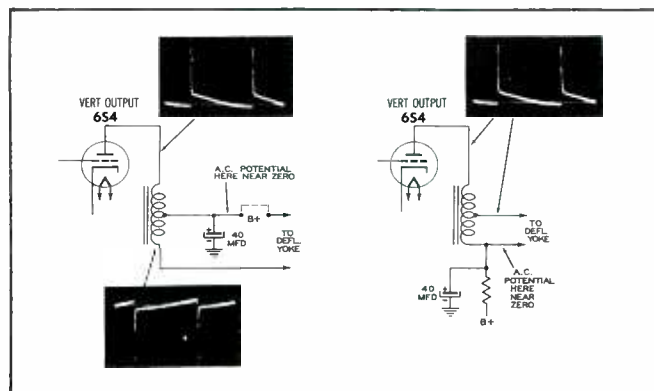

Fig. 9. The Signal Polarity Along an Autotransformer Depends Upon the Position of the AC Ground Point.
3. When the vertical-output transformer is an autotransformer, then the polarity conditions that prevail are shown in Fig. 9. Note again the significance of the position of the ground.